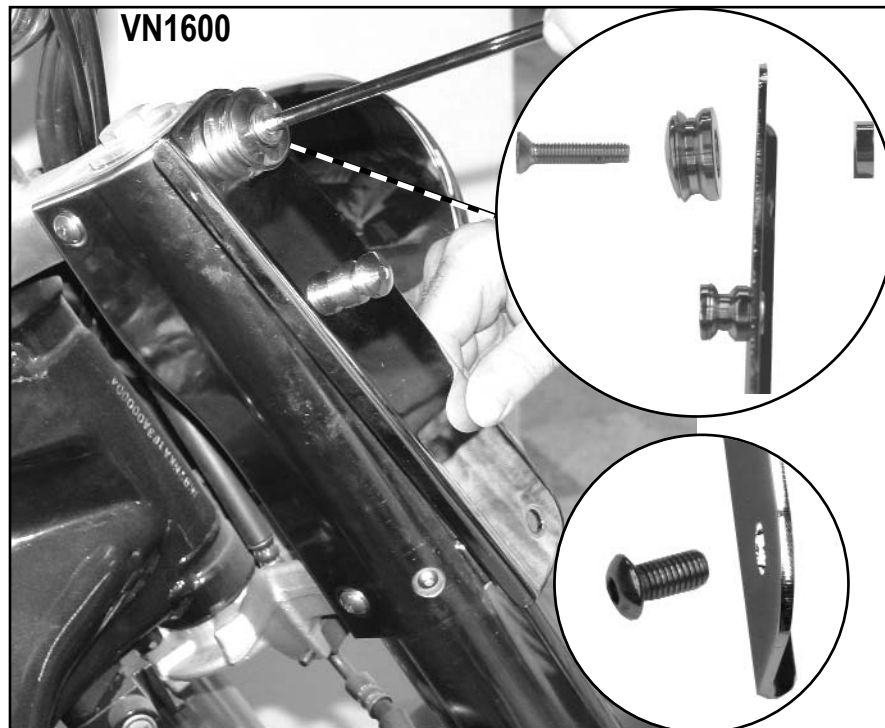

Figure 4
3. Assemble the Right Side Bracket (2) with bent edge of Bracket toward rear as shown in **figure 4 (5mm Hex Key).**